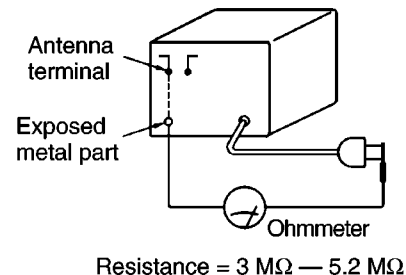
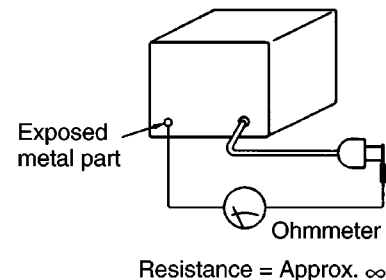

Fig. 2-1.
Fig. 2-2.
3. Measure the resistance value with ohmmeter between the jumpered AC plug and each exposed metal cabinet parts, such as screw heads antenna, control shafts, handle brackets, etc.. Equipment with antenna terminals should read between 3 M $\Omega$  - 5.2 M $\Omega$  to all exposed parts. Refer to Fig. 2-1. Equipment without antenna terminals should read approximately infinity to all exposed parts. Refer to Fig. 2-2.